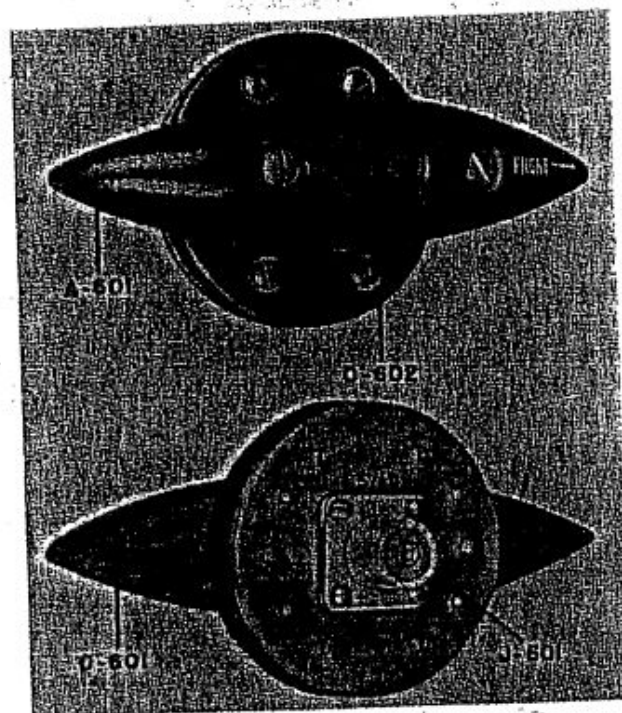

Figure 1-12. Coupling Unit CU-65/ARN-6 or CU-65A/ARN-6
k. COUPLING UNIT CU-65/ARN-6. (See figure 1-12.)—Coupling Unit CU-65/ARN-6 is a small streamlined enclosure attached to a rain-tight mounting plate which mounts on the skin of the aircraft. The coupling unit provides a female connector for the antenna transmission line and an antenna input terminal. Electrically the unit provides circuit connection between the antenna and the transmission line.
kA. COUPLING UNIT CU-65A/ARN-6 is a ruggedized version of Coupling Unit CU-65/ARN-6 and has identical mountings and couplings. (See Figures 1-12.)